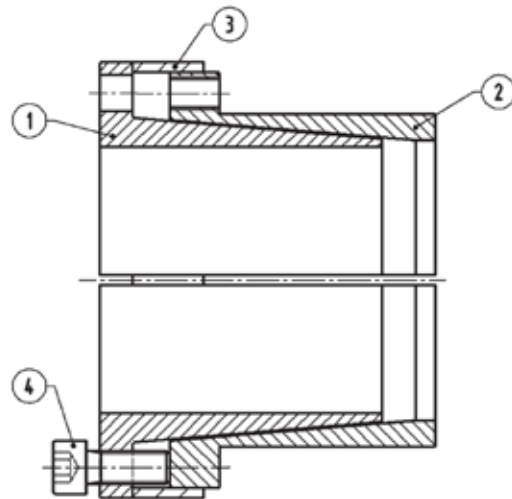

Figure 2
(Refer to Figure 2)
2. Loosen locking screws in several stages by using approx. 1/4 turns, following either a clockwise or counterclockwise sequence. Transfer required number of screws into all push-off threads of clamp collar Item 1 (see Figure 2).